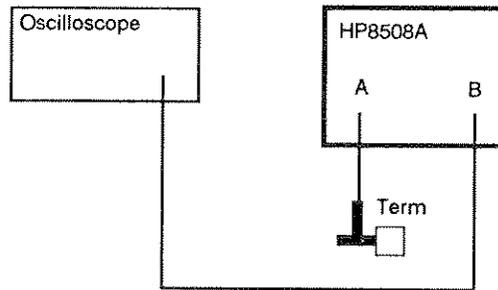

Figure 5-15. Symmetry Adjust Setup
2. Configure the equipment as shown in Figure 5-15.